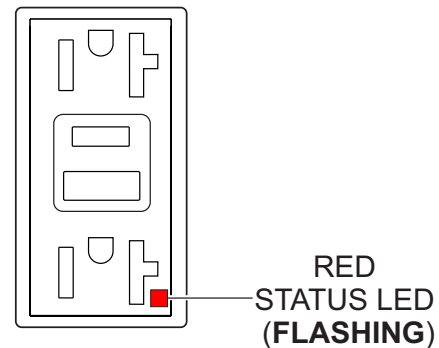

Figure 55. GFCI Receptacle (Red Flashing LED)
6. If the status LED (Figure 55) is **flashing (RED)**, **DO NOT** use the GFCI receptacle. Replace it immediately.